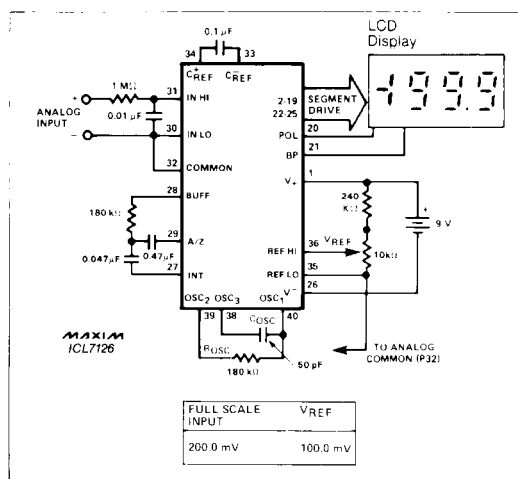

Figure 2. Maxim ICL7126 Typical Operating Circuit
**Note 6:** 48kHz oscillator, Figure 2, increases current by 20 $\mu A$  (typ).